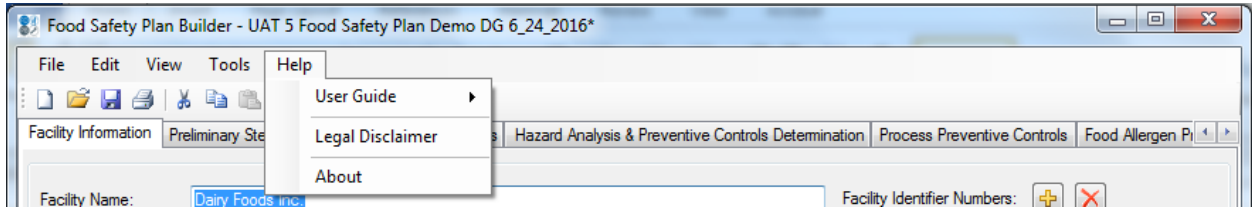

Figure 13: Help Menu
- **Middle Panel:** The middle panel (Figure 13) is the response section. In this area you will be asked to provide responses to each question.